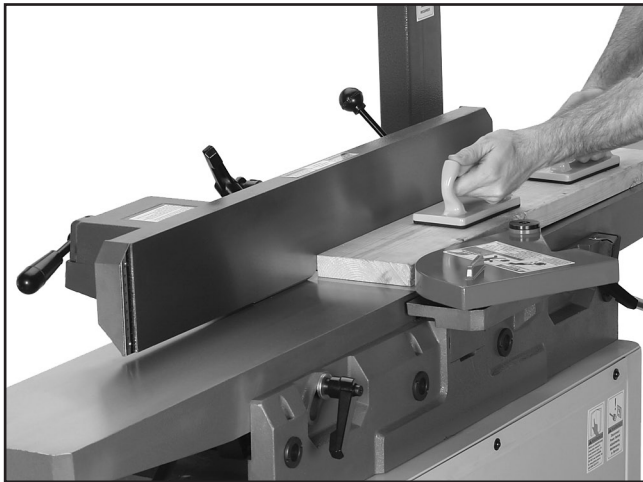

Figure 32. Typical surface planing operation.
The purpose of surface planing on the jointer is to make one flat face on the workpiece (see **Figures 32 & 33**) to prepare it for surface planing on a thickness planer.
7. With a push block in each hand, press the workpiece down on the infeed table and against the fence with firm pressure, then feed the workpiece over the cutterhead, as shown in **Figure 32**.